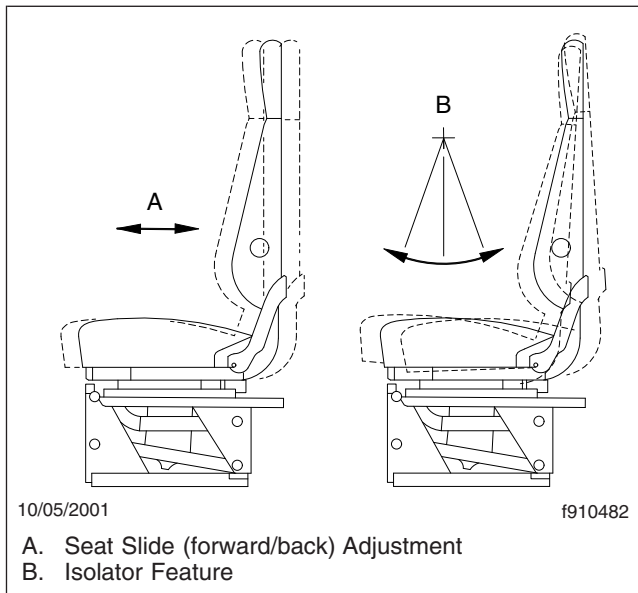

Fig. 5.16, Seat Slide Adjustment and Isolator Feature
1. **Seat Slide (forward-and-backward):** When this adjustment is made, the entire seat moves forward or backward on its track. See Fig. 5.16.
2. **Isolator:** This feature (also referred to as back-slap isolator or Chugger-Snubber®) reduces the amount of road shock by isolating the occupant from the motion of the vehicle, and allowing the upper seat to move in a simple pendulum motion. Whenever the isolator is not desired, it can be locked out. See Fig. 5.16.